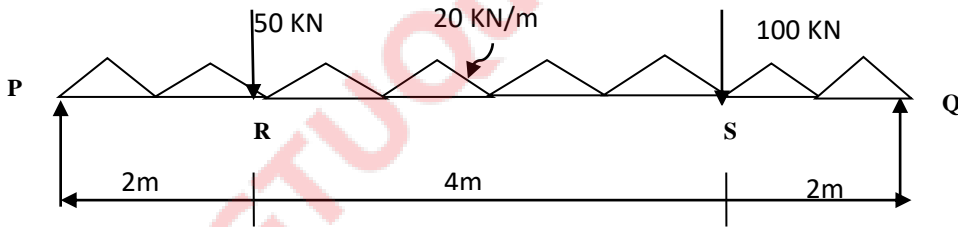

Fig 5
- (1) Find support reaction for the beam shown in Fig.5.